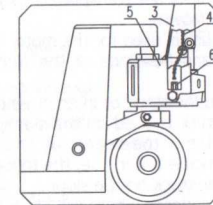
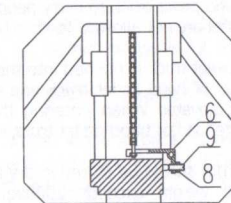

Fig. 2
Fig. 4
3.4 See fig 2. Put the chain 4 of hand grip get across the middle hole of pin roll 1.
3.5 Take screw nut which is at the end of chain 4 and hitch the groove of lever board 6. See fig 2 and fig 4.
4.2 The screw 9 in fig 4 is used to adjust the truck situation. When the truck body drops immediately after it is lifted, you should turn the screw 9